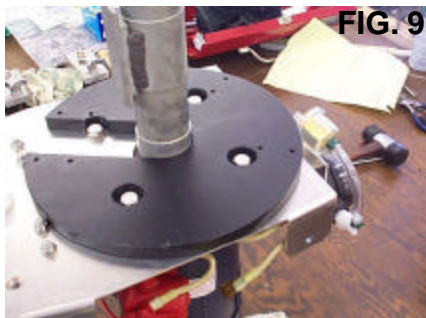

FIG. 9
5. Clean and reinstall slip ring mount (fig. 9). Install new slip rings with hardware provided in kit (fig. 10). Screws press fit through rings and mount, use screwdriver if needed.